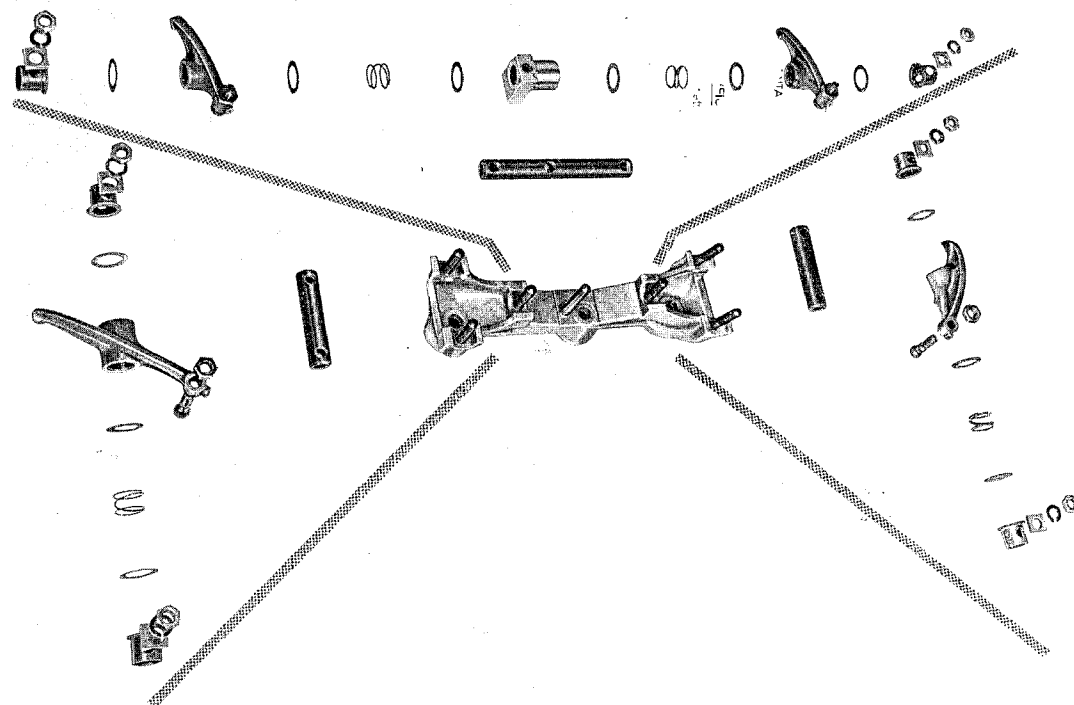

Fig. 134
5. It is important that washers, spacers, and clamps are properly arranged (Fig. 134).